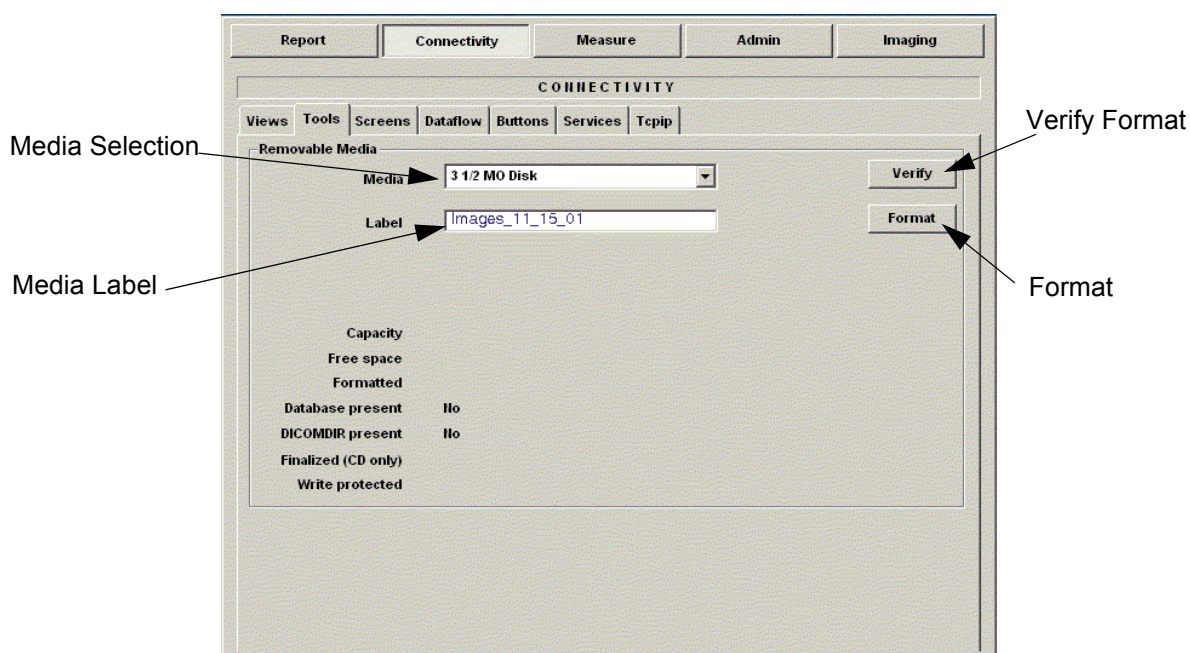

Figure 4-33 Format and Verify Media
- 4.) Enter the label for the media as shown in Figure 4-33. It is best to use all capital letters with no spaces or punctuation marks.
- 6.) If desired, verify that the format was successful by returning to *Utility>Connectivity>Tools* and selecting VERIFY as shown in Figure 4-33.